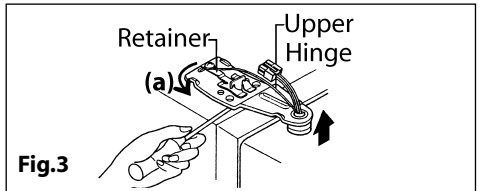

Fig.3
- * Remove the retainer by rotating it anti-clockwise (a - Fig.3), then remove the upper hinge by lifting up.